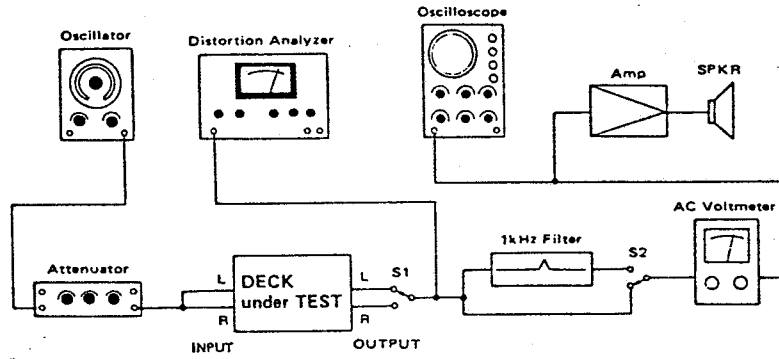
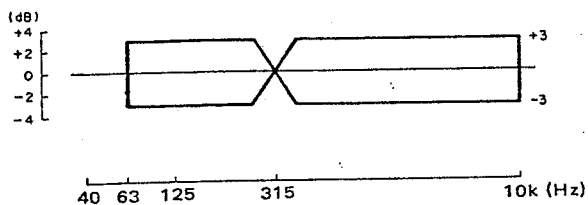

Fig. 6-2 Basic Test Setup
Fig. 6-5 Repro Frequency Response
|                                              | Connection : Fig.6-2 ; butwith INPUT (L/R)disconnected. | "                    | OUTPUTcont * | OUTPUT (L) :-7dBV (447mV)                                                                                                                                 |
| 3. Reprofrequencyresponse再生周波数特性 | Connection : Fig.6-2 ; butwith INPUT (L/R)disconnected  | MTT-256              | R117/R217        | OUTPUT (L/R) :Level difference as slight aspossible between for 315 Hzand 10kHz signals.315Hzと10kHzの出力がほぼ等しくなるように調整Specs 規格 : Fig.6-5 |
| 4. Min.INPUT level(REAR)最小入力レベル                               | Connection : Fig.6-2Setting : Table 2                                           | REAR INPUT(L/R) :400Hz/-18dBV(126mV) | Check                  | OUTPUT (L/R) :-10dBV $\pm$ 3dB(224mV~447mV)            |
| 8. INPUT level(FRONT)規定入力レベル                                      | Connection : Fig6-2INPUT switch : FRONTRECORD cont : Nominalposit. 規定位置 | INPUT (FRONT)L/R400Hz/-10dBV(316mV)  | Check                  | OUTPUT (L/R)-10dBV $\pm$ 1                                 |
| 11. Bias Trapバイアス・トラップ                 | Same as above 同上Connection : Fig6-2                                                        |                                                                         | VR PCBU101/U201(Refer to Fig6-1)                                                              | OUTPUT (L/R)Min bias leakage バイアス漏れ最小                                                                                     |
|                                            | “Connection : Fig.6-2Tape : MTT-5571                                                   | INPUT (L/R) :400Hz & 10Hzalternately/交互信号/-40dB (10mV)  | R146/R246                                                                                             | OUTPUT (L/R) :Equal output level (record andplayback) between for 400 Hzand 10kHz400Hzと10kHzの録再出力が等しくなること |
| 17. Erase efficiency消去効果                | Same as above 同上Connection : Fig.6-2 ; buta 1-kHz filter connected.1-kHz フィルター使用Tape : MTT-5571                                                                                                                                                                                                  | INPUT (L/R) :1kHz/0dBV(1V)                            | Check            | OUTPUT (L/R) :65dB min.                                                            |
|                                             | <ul style="list-style-type: none"> <li>● Connection : Fig.6-2 ; but with INPUT (R) disconnected and a 1-kHz filter connected.</li> <li>● 接続 : Fig.6-2, 但し INPUT (R) へは接続不要, 1-kHz フィルター使用</li> </ul>                                                                                                             |                                                               |                  |                                                                                        |
|                                             | <ul style="list-style-type: none"> <li>● Connection : Fig.6-2 ; but with INPUT (L) and OUTPUT (L) disconnected.</li> <li>● 接続 : Fig.6-2 但し INPUT (L), OUTPUT (L) の接続を外す.</li> </ul>                                                                                                                              |                                                               |                  |                                                                                        |